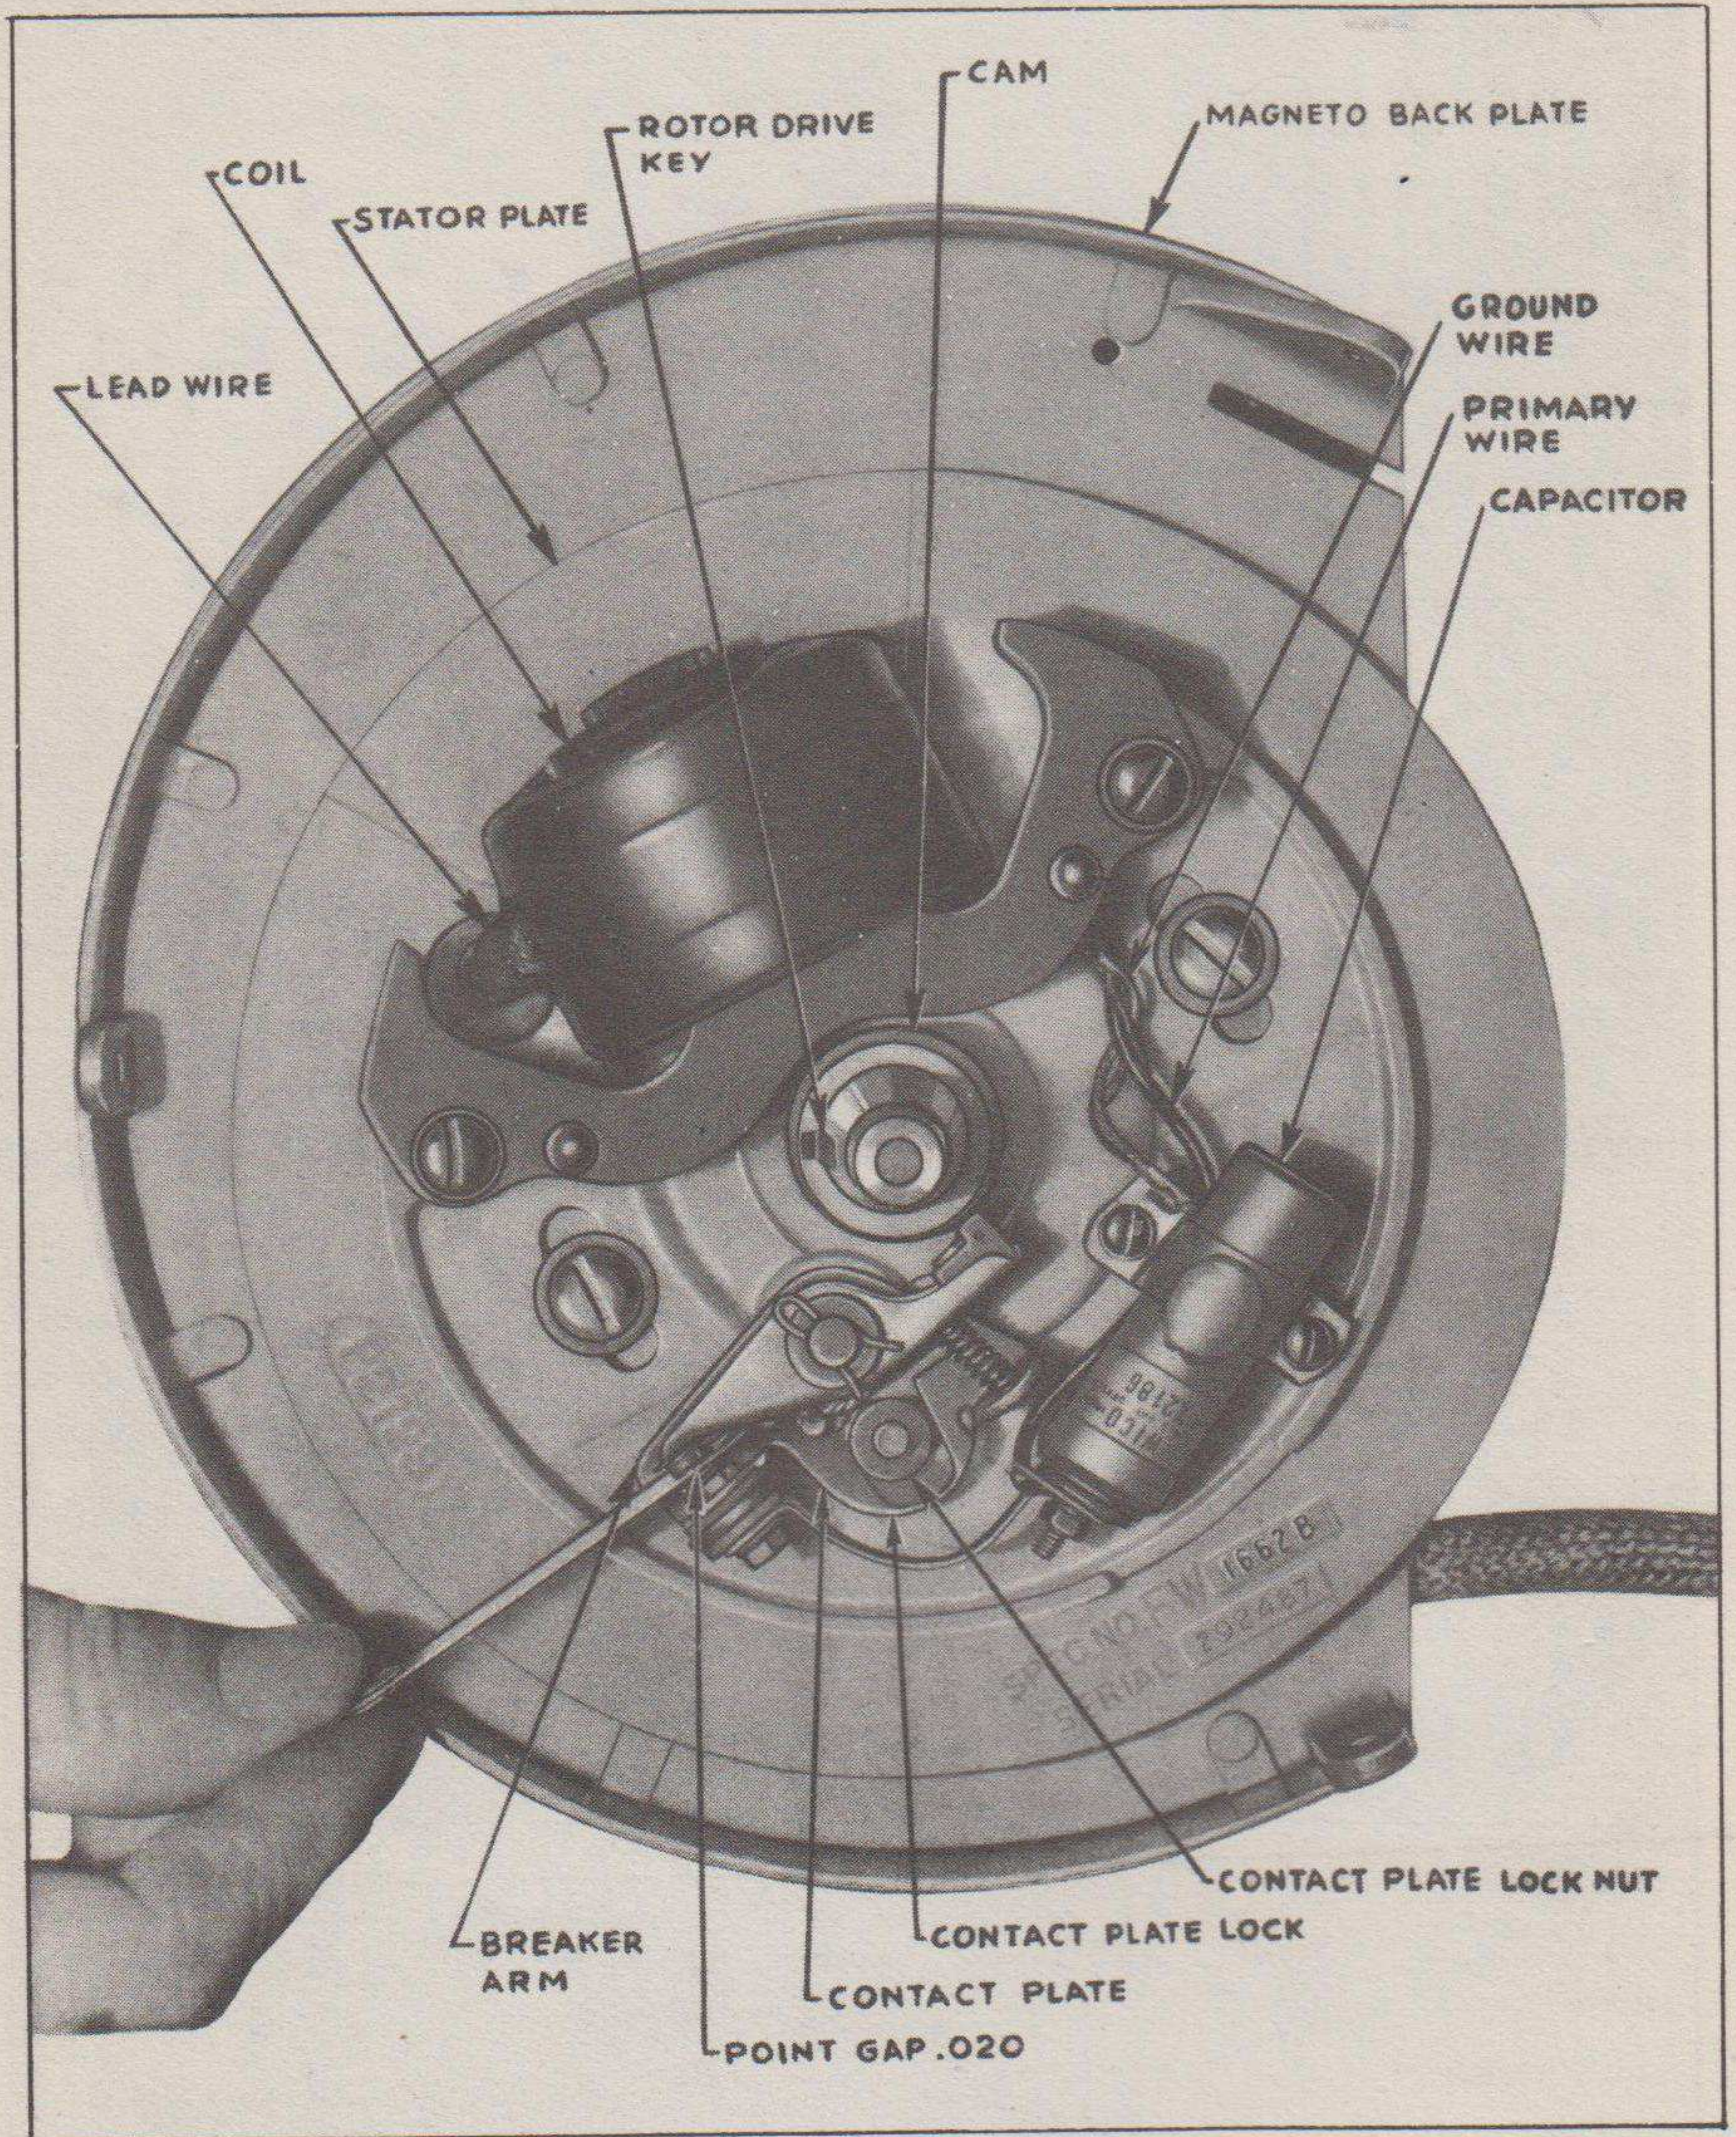

FIG. 12. MAGNETO POINT ADJUSTMENT
engine clockwise (to the right) by hand until breaker points are fully open. Check point opening (see Fig. 12, page 24) with feeler gauge (148). Correct opening is .020". (Note: Although contact points remain open during the entire travel of the cam (40) from the breaking edge, being closed only while the flat section of the cam is passing the breaker arm (38) fibre, the cam must be positioned so the breaker arm fibre rests on highest point of cam when gauging point opening.) If points need re-setting, bend down contact plate lock, loosen lock nut (47) which holds breaker plate (37) in position, and move plate up or down as might be necessary to obtain proper point opening. After setting is accomplished, be sure to tighten lock nut (47) and bend ear of plate lock against flat of lock nut so it cannot loosen up.
(3) The rod should again be inserted through spark plug hole until it touches top of piston. Then turn engine in direction of rotation (to the right) until top mark on rod is flush with top of spark plug hole.
(4) Move stator plate (50) until points just begin to break. Tighten plate by means of the two round head screws, which lock plate in place. Recheck to determine if piston is $\frac{1}{8}$ " from top dead center when magneto points just begin to open. If setting is exactly as described, a spark should occur when piston is $\frac{1}{8}$ " from top dead center.
(5) Replacing high tension wire.—A chafed or broken cable (45) which is cause for continuous or intermittent misfiring, should be replaced. Strip back the high tension cable about $\frac{1}{2}$ " on the magneto end, twist strands together and slip through hole in bracket attached to coil. Bend strands around bracket so cable cannot work out (see Fig. 12, page 24). It is essential that the bare end be kept close to each surface after cable is in place. (Do not solder cable to coil.)
(6) Coil and Condenser.—If no spark or a weak spark occurs after adjusting the contact points, the trouble is likely to be in the coil (48) or condenser (42) although failure of these parts is not a common cause of difficulty. Replace either one or both only after checking the spark plug, high tension wire connection, and magneto contact points. (Coil is furnished as assembly only with laminated coil.) In replacing the coil assembly, the three machined faces of the laminations must line up exactly with the three machined bosses of the stator. Screws must be tightened securely.
(7) Magnet.—Integrally cast in the rim of the rotor (49) is the magnetic unit which concentrates a powerful magnetic charge within a small volume. By virtue of its ability to retain indefinitely this high magnetic concentration, the unit is able to provide the magneto with extraordinary high spark output through its entire life. Therefore, no trouble should be experienced with the magnet.
(8) Lubrication.—The magneto should require no lubrication for a long period of service. For cam lubrication add a little